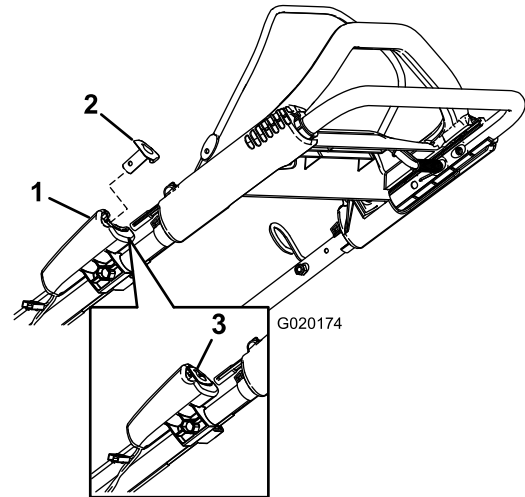

**Figure 13**
1. Hold the blade-control bar against the handle (Figure 13).
2. Push the electric-start button (Figure 14) (electric-start model only) or pull the recoil start handle (Figure 13).